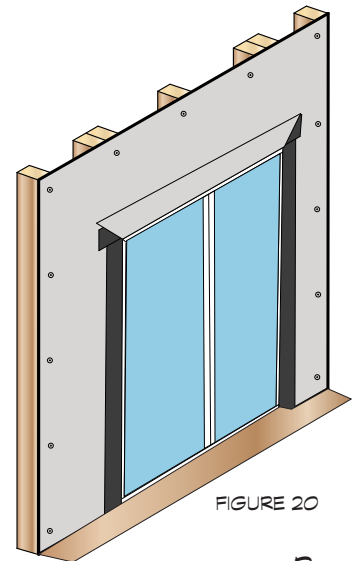

FIGURE 20
20. Remove tape from flap previously cut on house wrap, and secure to wall (Figure 20).